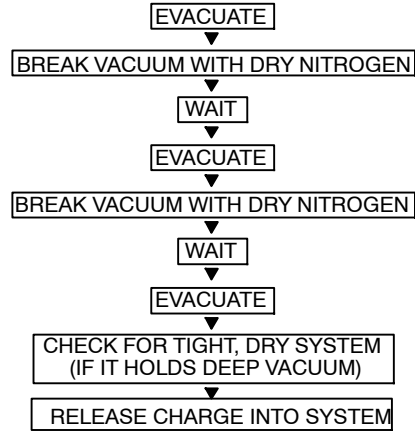

Fig. 31 - Triple Evacuation Method
Refer to Fig. 31 and proceed as follows:
5. Repeat this procedure as indicated in Fig. 31. System will then be free of any contaminants and water vapor.